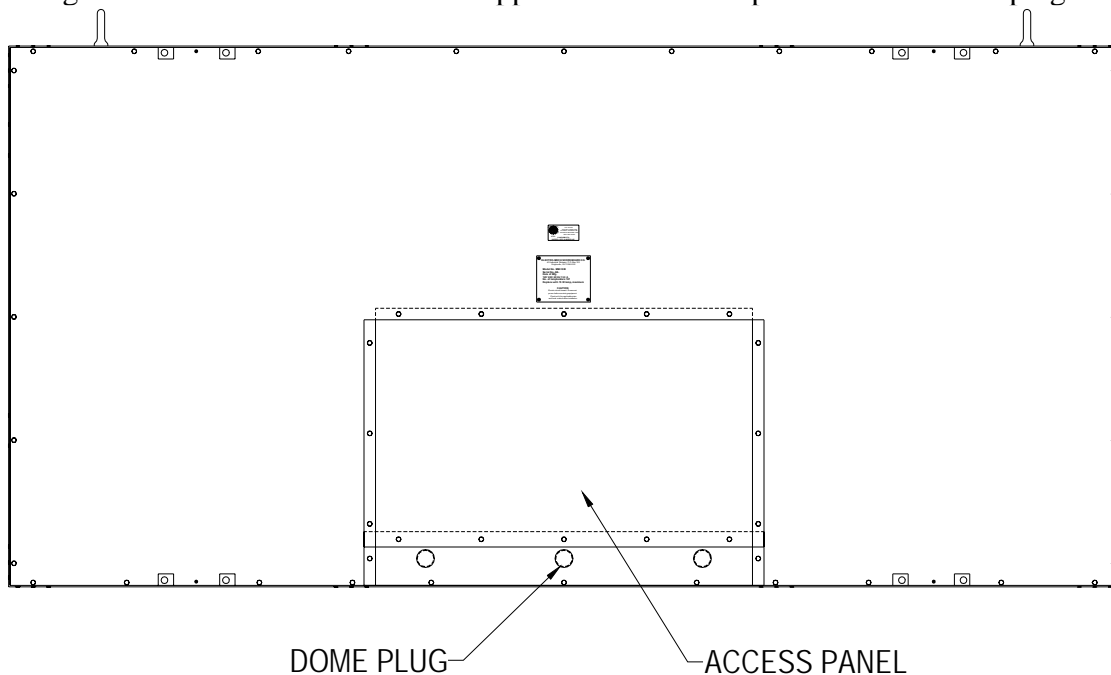

Figure 6 Upper Cabinet Rear Access Panel
- Figure 6 shows the location of the upper cabinet access panel and the dome plugs.